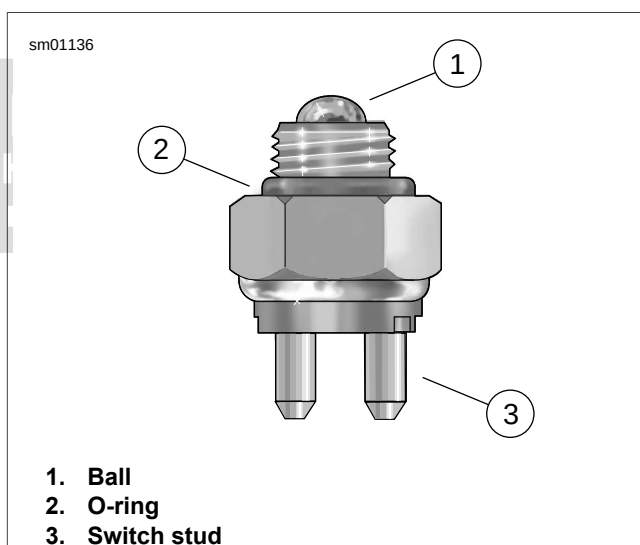

Figure 7-42. Neutral Switch (typical)
1. See Figure 7-42. Lubricate new O-ring (2) with engine oil.